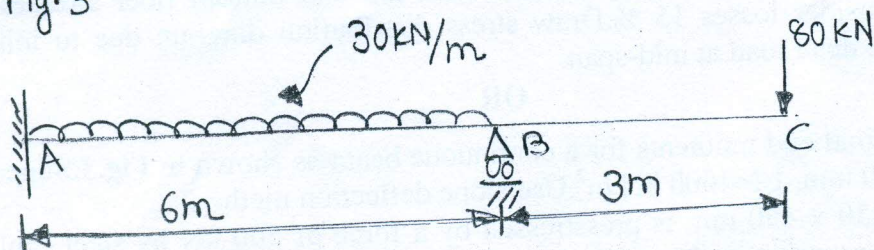

Fig.4
**Q.3 (A)** Draw shear force and bending moment diagram for propped cantilever beam as shown in **Fig.4.** 05